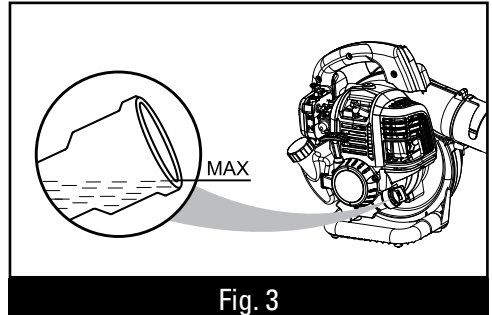

Fig. 3
4. If level is low, add engine lubricant until the fluid level rises to the top of oil fill hole (the top of screw thread) and does not overfill, Fig.3.